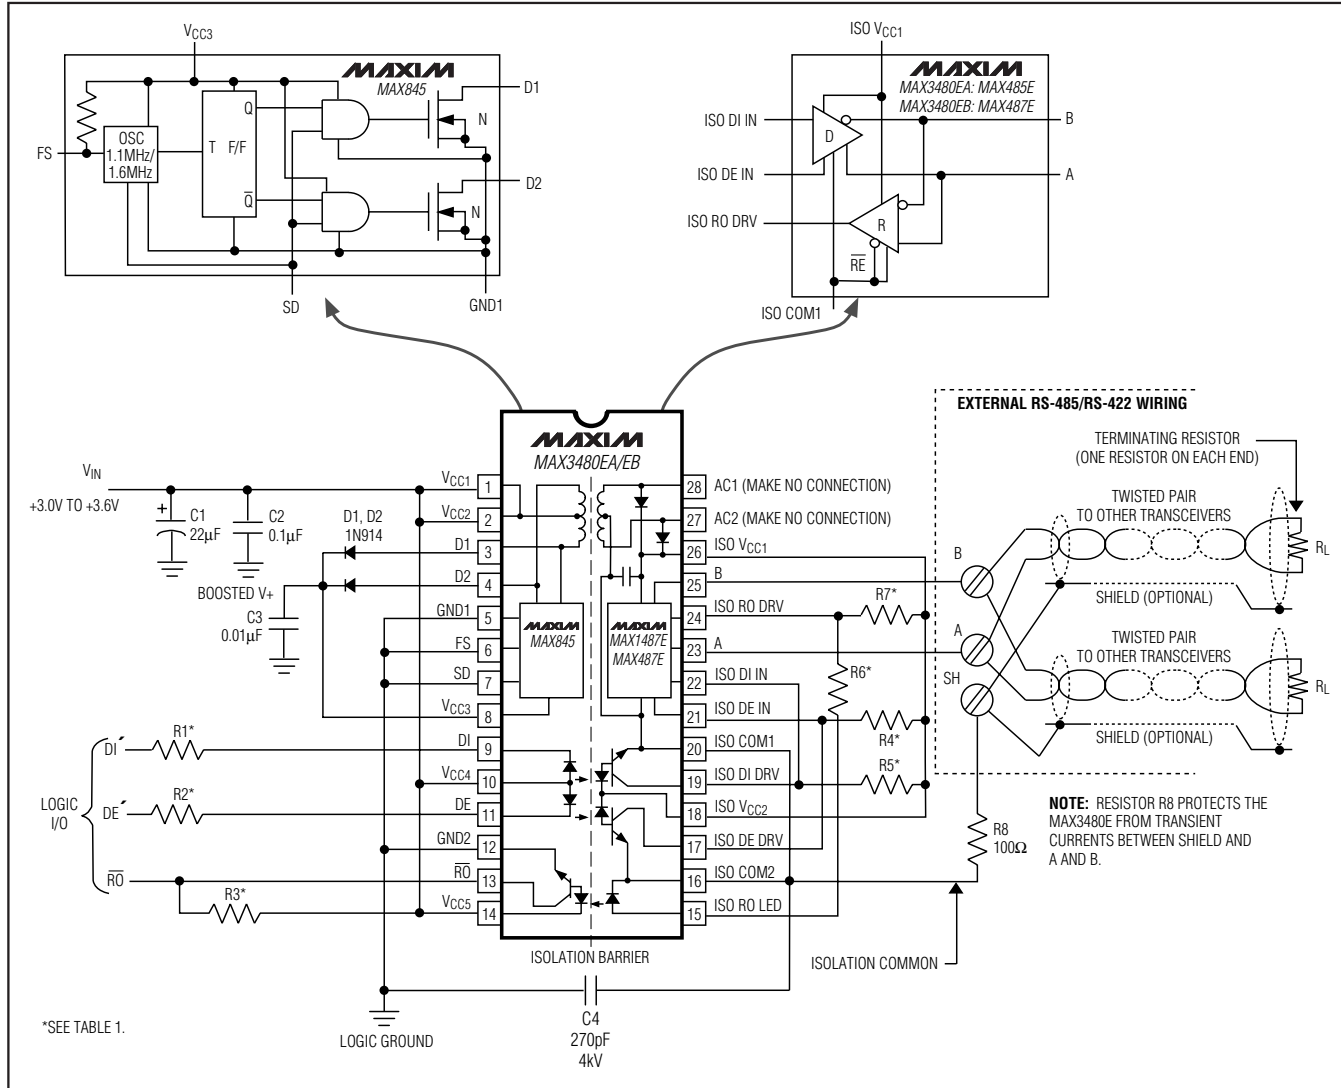

Figure 1. Block Diagram
**Note 2:** For DE' and DI' pin descriptions, see the *Block Diagram* and the *Typical Application Circuit* (Figure 1 for MAX3480EA/MAX3480EB).
( $V_{CC-} = +3.3V$ ,  $T_A = +25^\circ C$ , Figure 1, unless otherwise noted.)
isolation barrier (Figure 1). Power is transferred from the logic side (nonisolated side) to the isolated side of the barrier through a center-tapped transformer. Signals cross the barrier through high-speed optocouplers. A single +3.3V supply on the logic side powers both sides of the interface.
Resistor R8 (Figures 1 and 2) provides additional protection by current limiting between the shield and the two signal wires. In the event that shielded cable is used and an external voltage or transient is inadvertently applied between the shield and the signal wires, the MAX3480EA/MAX3480EB can be damaged. Although unlikely, this condition can occur during installation.